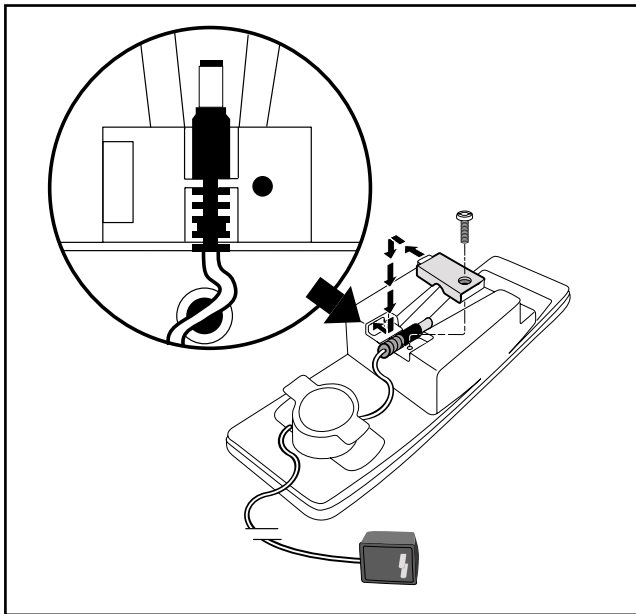

Fig. 1
1. Push the barrel connector of the charger plug into the slot of the wall station. Make sure the connector is secure and inserted correctly into the slot shown (see inset in Fig. 1).
2. Slide the clamp into the slot provided. Install screw (Fig. 1).
- a) Barrel connector has been properly installed into the wall station (see Fig. 1 on page 5).